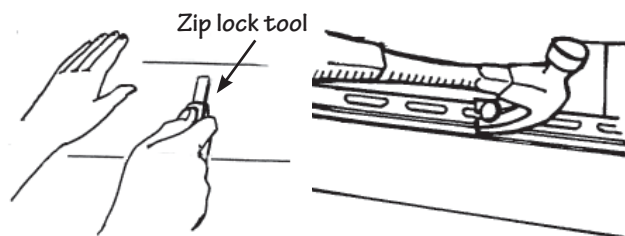

Figure 75.
- Slip the zip lock or unlocking tool behind the bottom of the panel above the one to be replaced and unzip it from the lock on the damaged panel (Fig. 75).